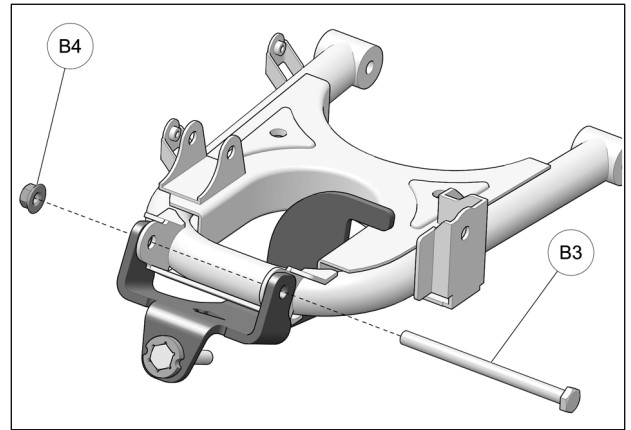

Fig. 8
8. Insert the new M10x140mm bolt (B3) through anchor bracket, suspension arm and wheel knuckle. Secure assembly with the provided M10 nut (B4). Torque nut to 50 N•m [37 lb•ft]. See Fig. 8